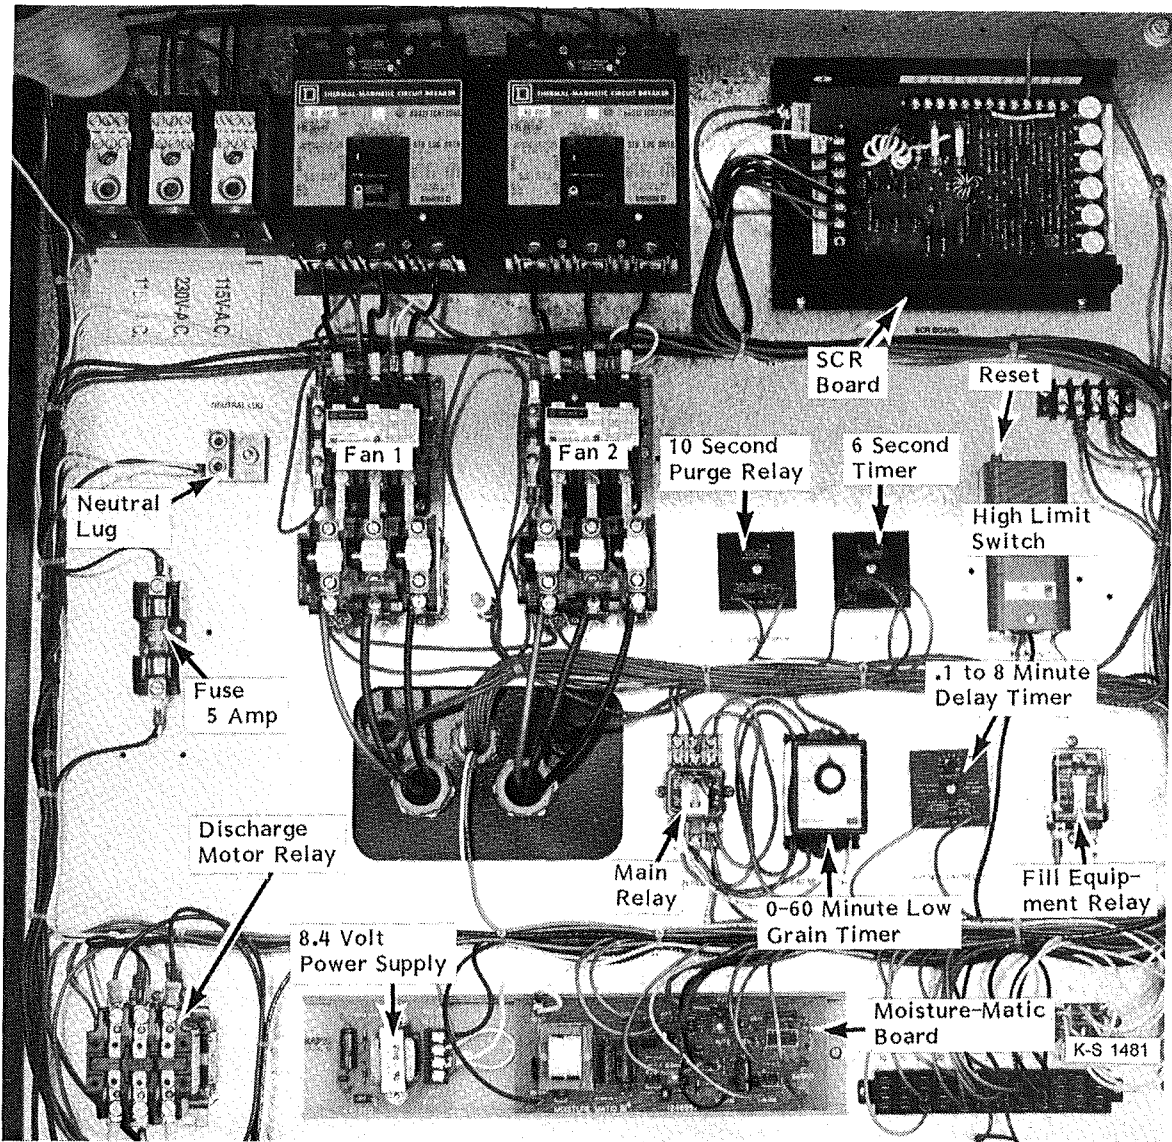

Figure 7 - Control Cabinet (Inside)
4. Adjust the high limit thermostat (Figure 7) (located in the upper right side of the control cabinet) 30-50° above the desired drying temperature or just enough to avoid nuisance shutdowns. (See Recommended Drying Temperatures, page 15.)
8. Flip the control circuit toggle switch ON. The control circuit ON light and high limit light will be on. If the high limit light is not on, push the reset button on the high limit switch, see Figure 7.
1. Set the adjustable grain fill delay (Figure 7) for the desired delay time (.1 to 8 minutes).
2. Flip the WET GRAIN switch to the MANUAL position. Turn the timer control knob (Figure 7) to 20 minutes. The fill equipment **will start after** the adjustable .1 to 8 minute delay if the FILLING light is on calling for grain.
3. The Low Grain Timer (Figure 7) will shut the dryer down if there is an insufficient grain supply to fill the hopper. When the fill equipment starts, the Low Grain Timer will be activated. When the timer counts down to zero, the dryer will shut down and the EMPTY light will be on.